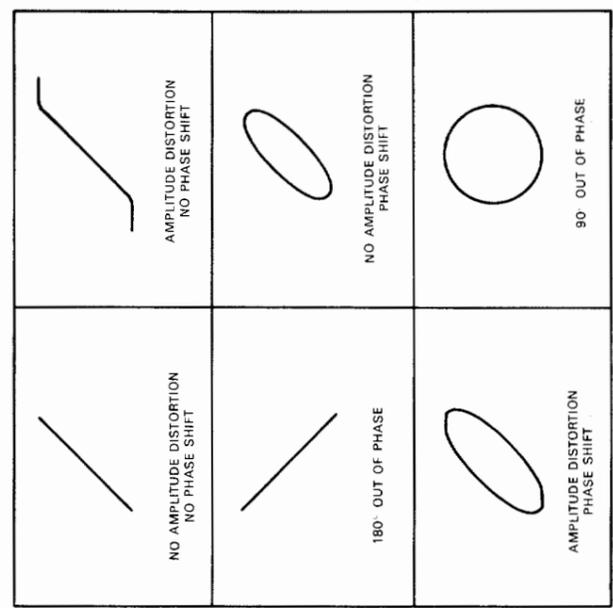

Fig. 20 Typical phase measurement oscilloscope displays
- Some typical results are shown in Fig. 20. If the two signals are in phase, the oscilloscope trace is a straight line. If the vertical and horizontal gain are properly adjusted, this line is at 45°. A 90° phase shift produces a circular oscilloscope pattern. Phase shift of less (or more) than 90° produces an elliptical Lissajous' pattern. The amount of phase shift can be calculated by the method shown in Fig. 21.